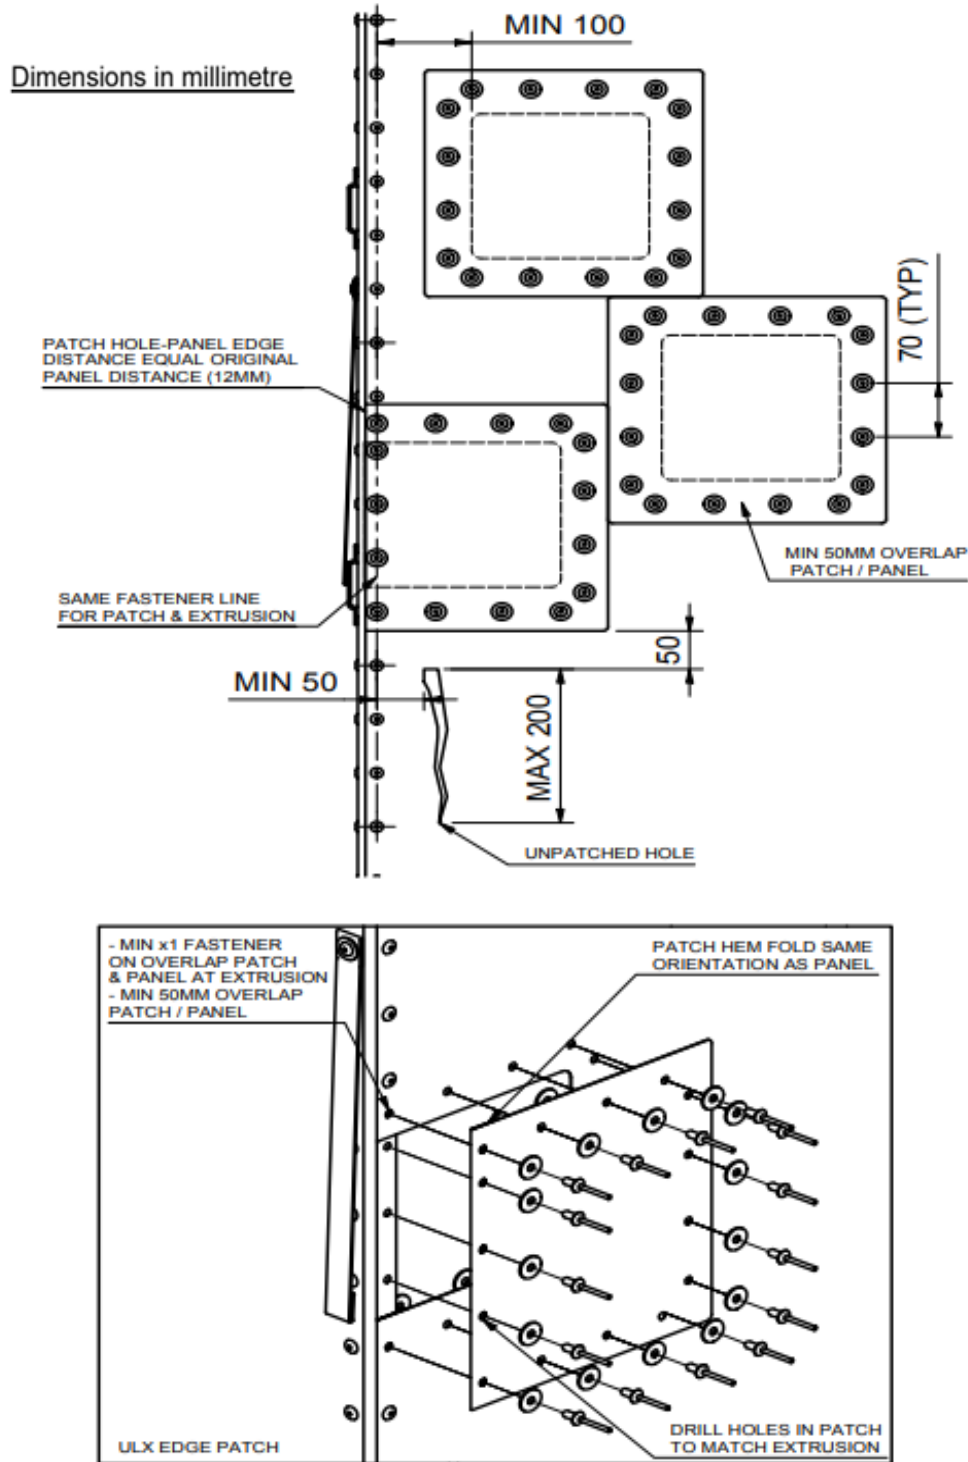

Figure 107
See Figure 107.
3.10.1.1 The damage may be non-structurally repaired using “Peel & Seal” patch (available as a part from Nordisk). The patches may be placed on one or both sides of the hole. For P/N of precut patches, see Figure 107.